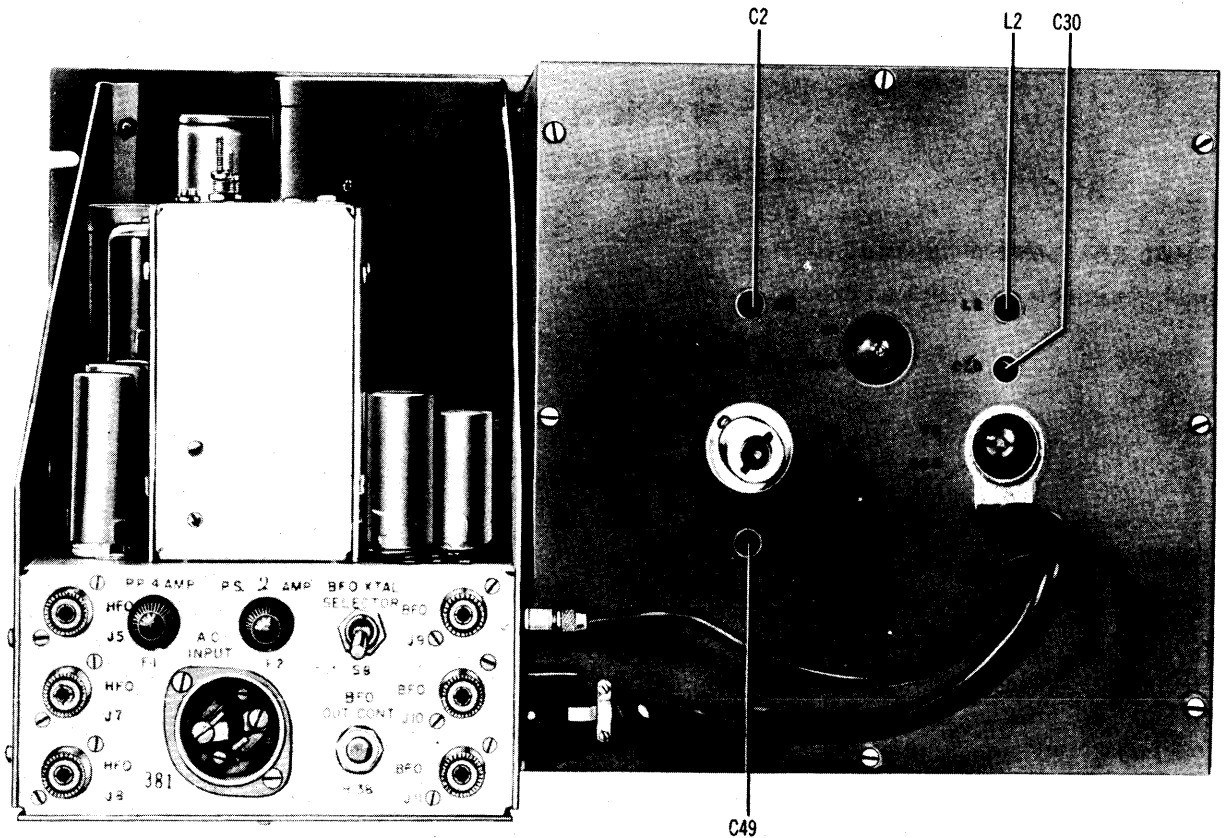

Figure 8-1. Variable Master Oscillator, Rear View
- g. Adjust capacitor C49 (see figure 8-1), accessible
i. Connect the d-c probe of a VTVM to grid 6 of V2 and adjust capacitor C30 (see figure 8-1), accessible from the rear of the oven, until a reading of zero volts is obtained.
k. Adjust the plates of capacitor C2 (see figure 8-1) so that they are half meshed.
m. Set the DIAL UNITS control for a reading of 0030.0 and adjust L2 (see figure 8-1) until a zero beat is obtained, at the receiver output. Tune the receiver to 4 mc to pick up the 2nd harmonic of this 2-mc